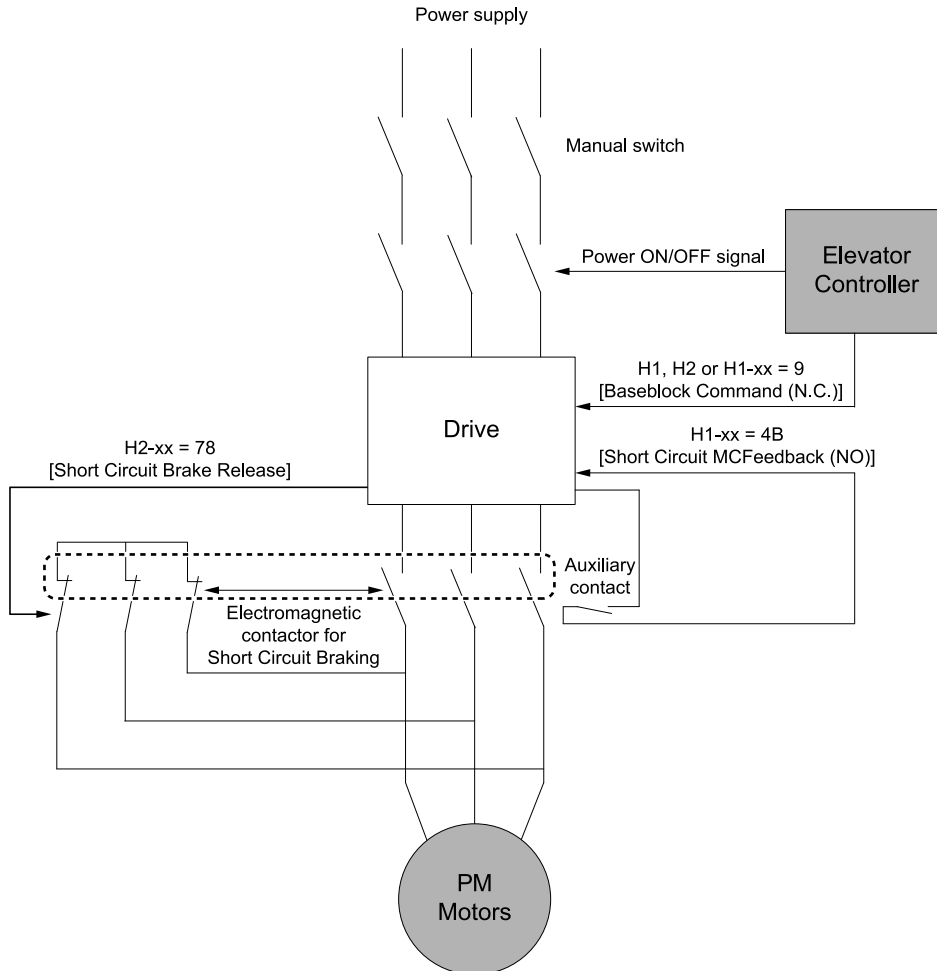

Figure 4.38 Wiring Example to Use Short Circuit Braking Function
- The coil power supply of the electromagnetic contactor for Short Circuit Braking shown in the dashed frame in Figure 4.38 turns OFF immediately when a power loss occurs